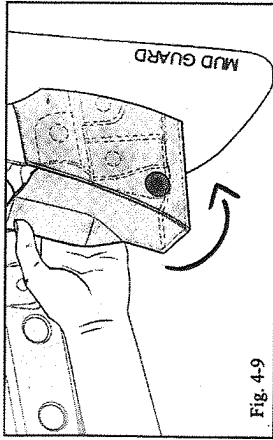

Fig. 4-9
- (l) Disengage the front fender molding by pulling the molding from the inside (Fig. 4-9).